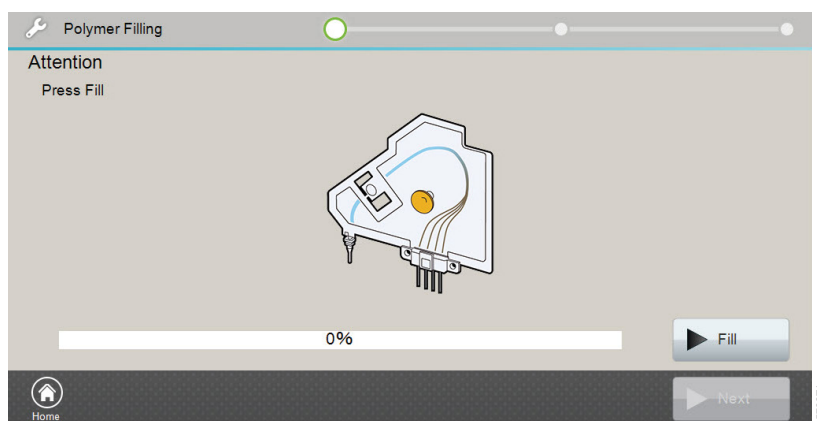

Figure 39. 'Polymer Filling' screen.
2. Select **Uninstall** in the footer to start the wizard. This displays the 'Polymer Filling' screen (Figure 39).
5. Select **Fill** on the 'Polymer Filling' screen (Figure 39) to fill the capillary cartridge with polymer. The status indicator flashes green during polymer filling and returns to a steady green when complete, coincident with activation of **Next** on the right hand side of the footer of the 'Polymer Filling' screen. Select **Next** when filling is complete.